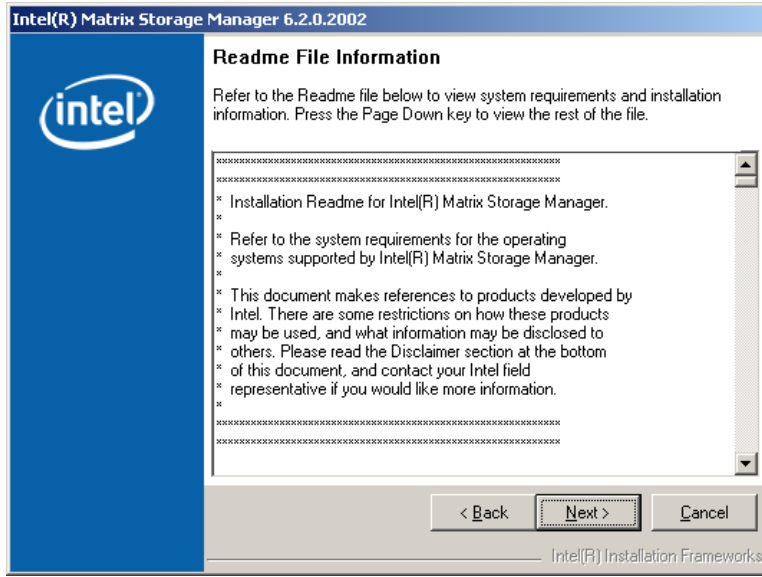

Figure 7-43: Matrix Storage Manager Readme File
Step 10: Read the license agreement. To accept the terms and conditions stipulated in the license agreement shown, click **YES** and the Readme information file shown in **Figure 7-43** appears.